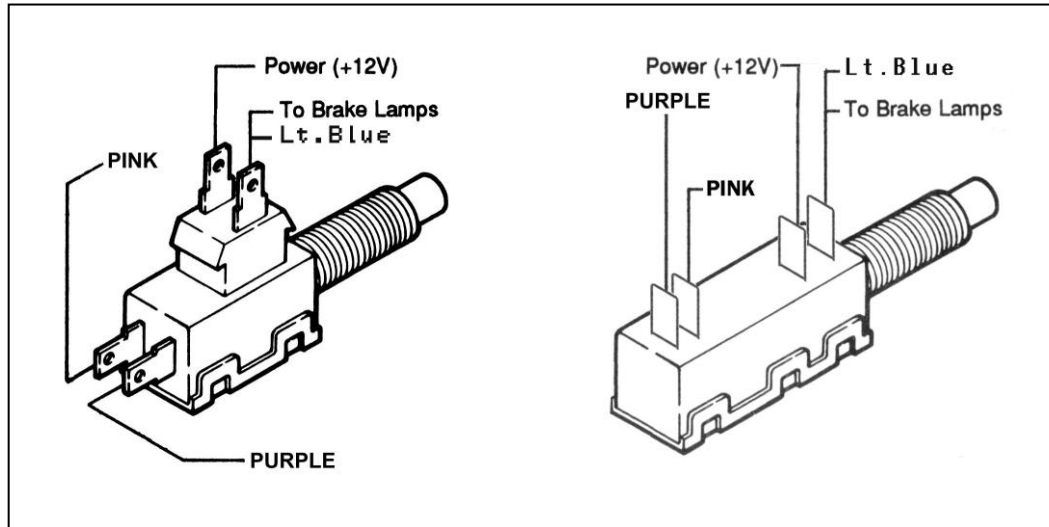

FIGURE 6.2 Brake Switch Connections
- F. The Purple, Pink and Lt.Blue wires labeled BRAKE SWITCH are the wires that connect to the brake switch. The Purple and Pink wires are connected to the normally closed side of the brake switch. Pink is power and Purple is signal to let the computer know when the brake is applied. These wires must be connected so the lock up function of the torque converter and/or cruise control will operate correctly. Connect the Lt. Blue wire to the normally open brake lamp side of the brake switch regardless of which transmission you are using. See **Figure 6.2**.